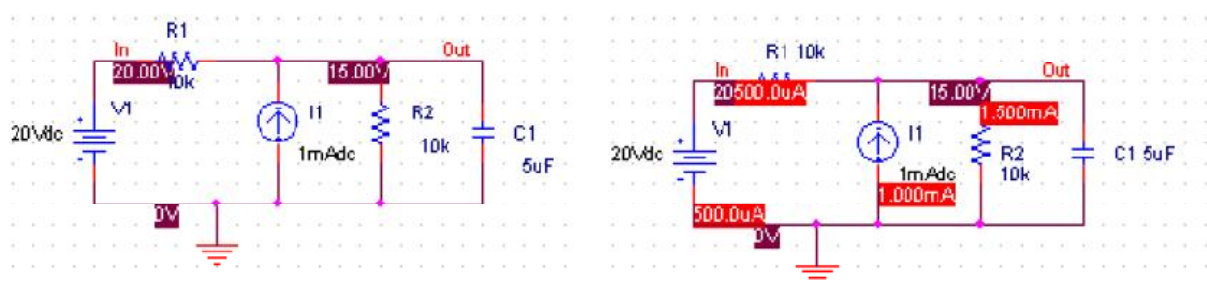

Figure 6. Results of the Bias simulation displayed on the schematic
- To see the result of the DC bias point simulation, you can open the Simulation Output file or go back to the schematic and click on the V icon (Enable Bias Voltage Display) and I icon (Enable Bias Current Display) to show the voltage and currents (see Figure 6).